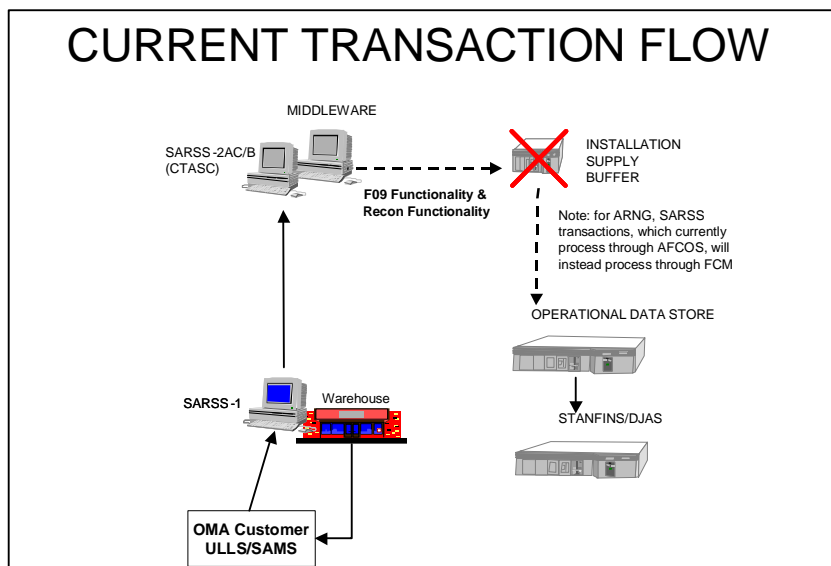

Figure 1 – Current Transaction Flow
- **Eliminate Installation Supply Buffer (ISB).** ISB is the current non-accounting Defense Finance and Accounting System (DFAS), which operates between the Standard Army Retail Supply System (SARSS) / Middleware (MW) and Operational Data Store (ODS) / Standard Finance System (STANFINS). Its primary function is to change logistical transactions (on the SARSS generated F09) to MILSBILLS format in support of financial processing for both the Active Army and Army Reserves. The Army National Guard uses the Automated Funds Control Order System (AFCOS) to perform the same task. Funds Control Module (FCM) will replace all 36 ISB in the DFAS inventory, and perform the F09 functionality of AFCOS. Figure 1 shows the current transaction flow, and highlights the future elimination of ISB.